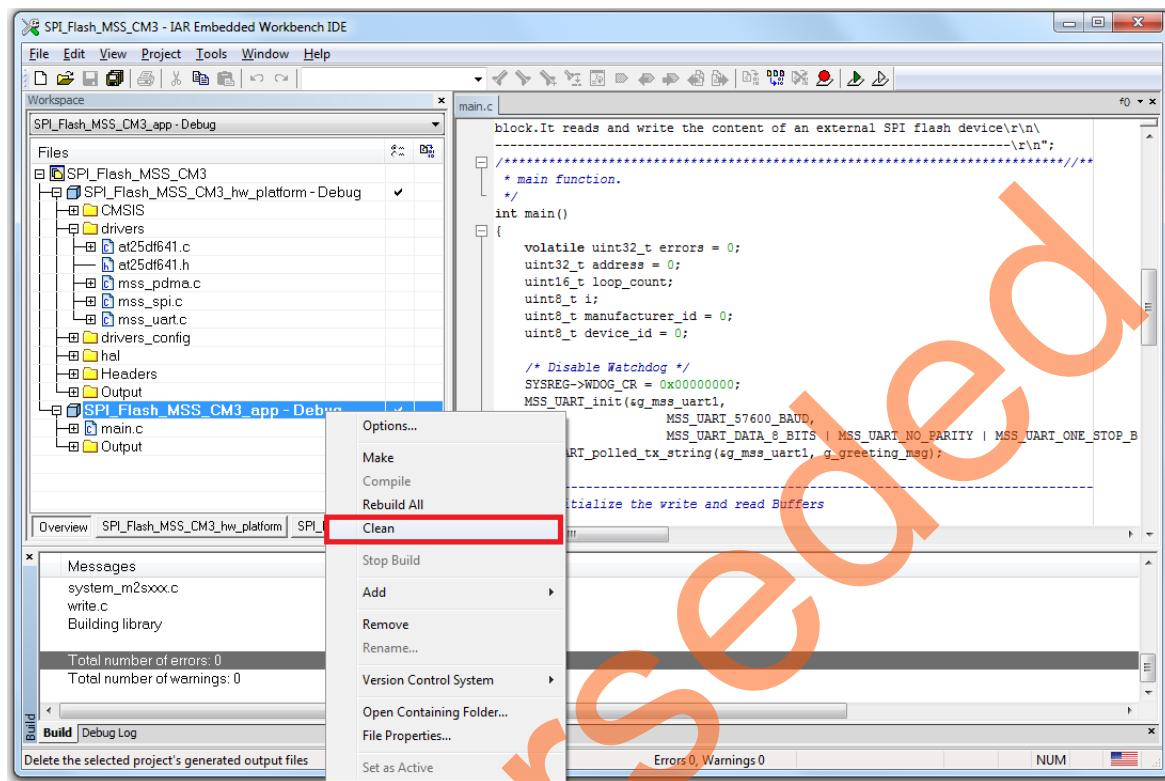

Figure 34 • IAR Workspace - Execute Clean on SPI_Flash_MSS_CM3_app Project
19. Right-click on the **SPI_Flash_MSS_CM3_app - Debug** project name and select **Clean** as shown in Figure 34.